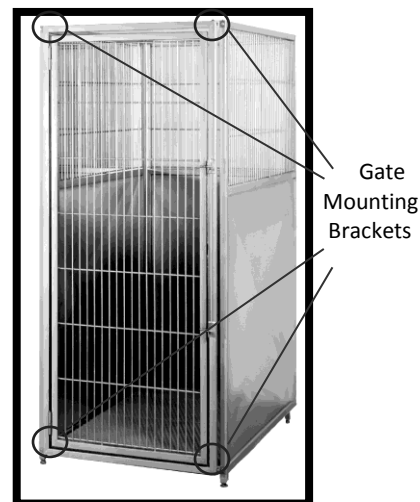

Figure 74: Swinging Gate Mounting Brackets
3. With a 1/2 in. wrench, remove the cap screws that hold the swinging gate assembly to the brackets on the pen system (Figure 74).